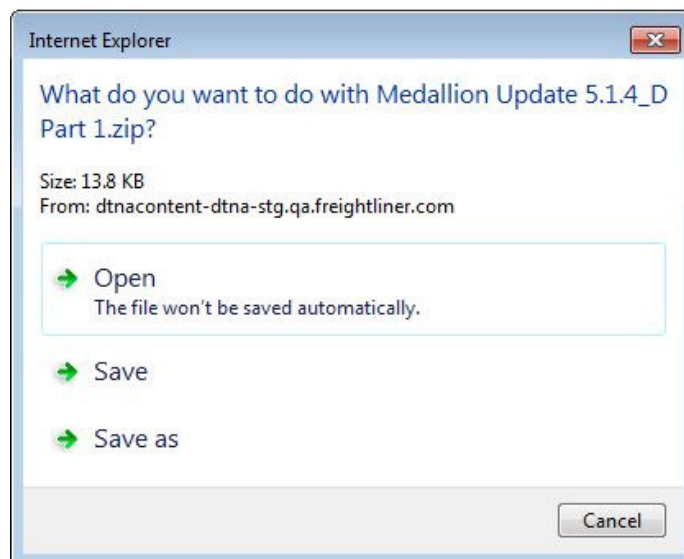

Fig. 3, "Save as" Screen
4. Select "Save as" and then choose the drive letter noted from step 1, then select "Save." See **Fig. 3**